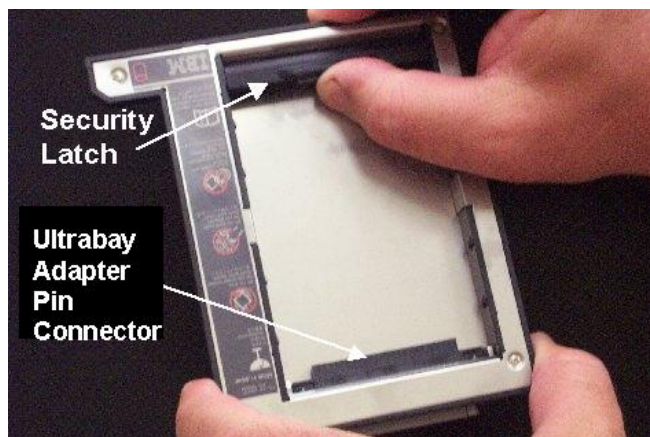

Figure 12-18.- A31p Ultrabay Adapter.
- a. Raise black security latch (refer to figure 12-18)
- c. Insert spare A31p Hard Drive (label side face up) while aligning hard drive pins to A31p Ultrabay Adapter pin connector (refer to figure 12-18)